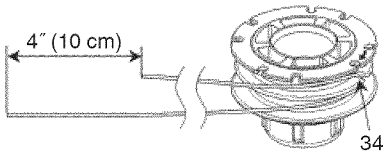

Fig. 30
- (2) After removing the case, take out the reel and discard the remaining line.
(3) Fold the new nylon line unevenly in half as shown in picture.
Hook the U-shaped end of the nylon line into the groove (34) on the center partition of the reel. Wind both halves of the line on the reel in the same direction, keeping each half of the line on its own side of the partition. (Fig. 30)